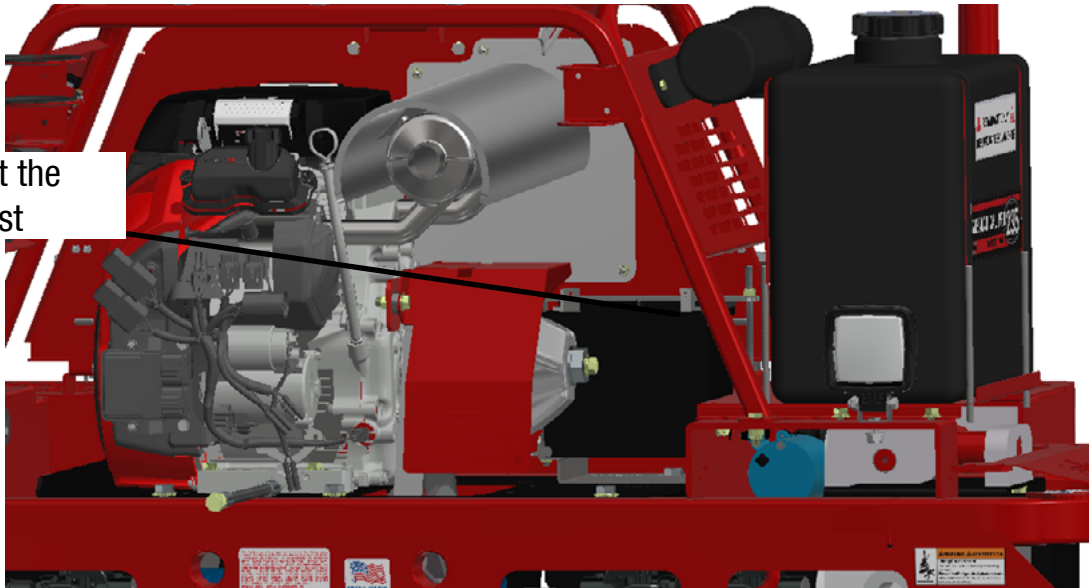

Figure 3.2: Battery and Plate
2. Disconnect the battery. Refer to Figure 3.2.